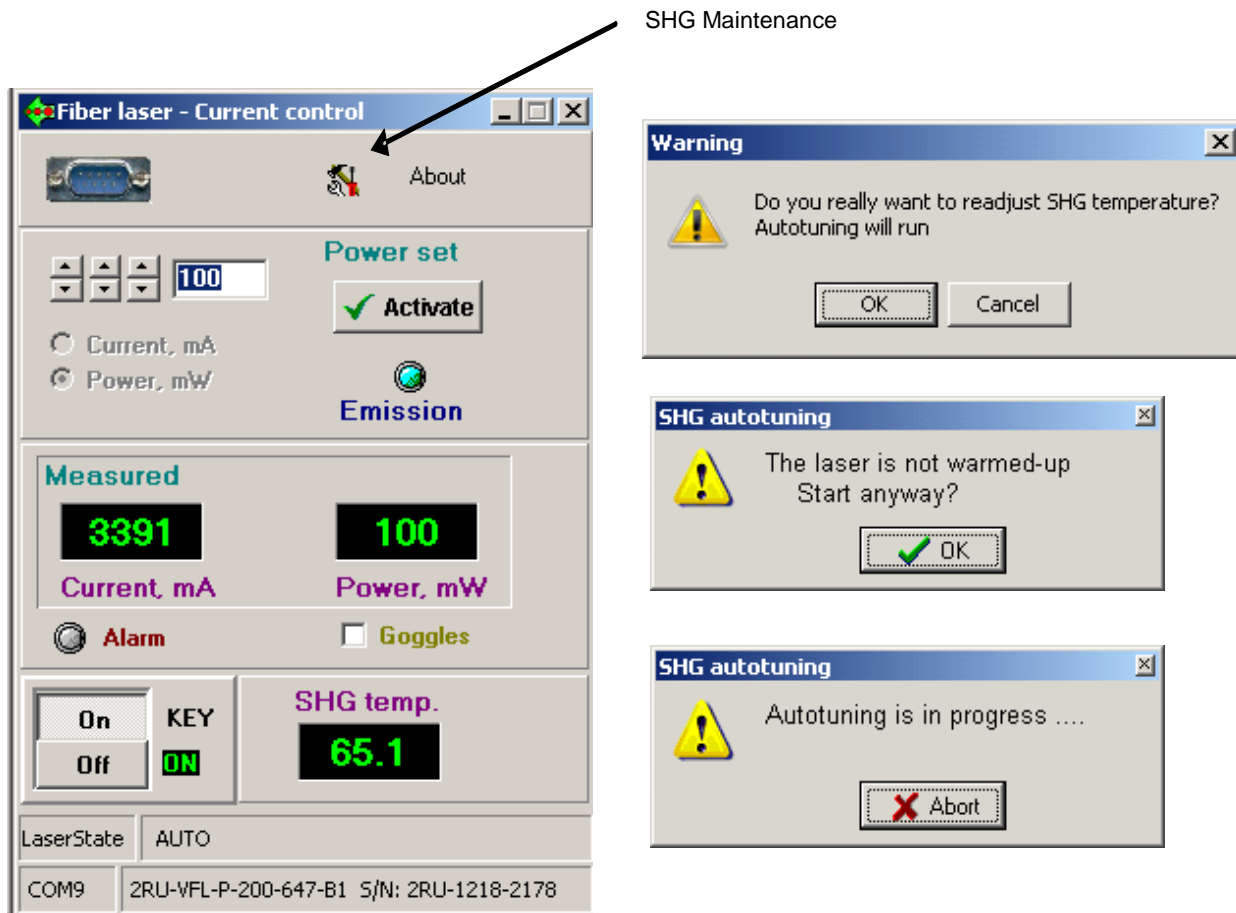

Fig. 5 Initiating SHG Maintenance in Power Mode
- ◆ For newer versions of the laser firmware, it is also possible to perform an automatic SHG tuning in the **Power Stabilization mode**. Once clicking on the **tools icon**, a small window will open for validation [see figure 5].